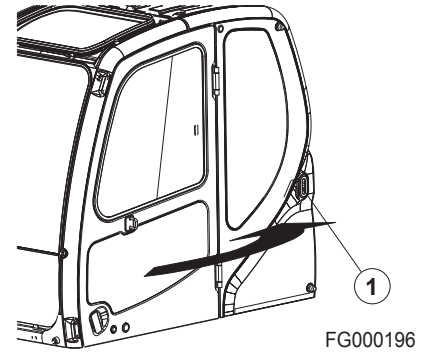

Figure 137
1. The door side latch (1, Figure 137) is used to secured door to side of cabin when it is opened.